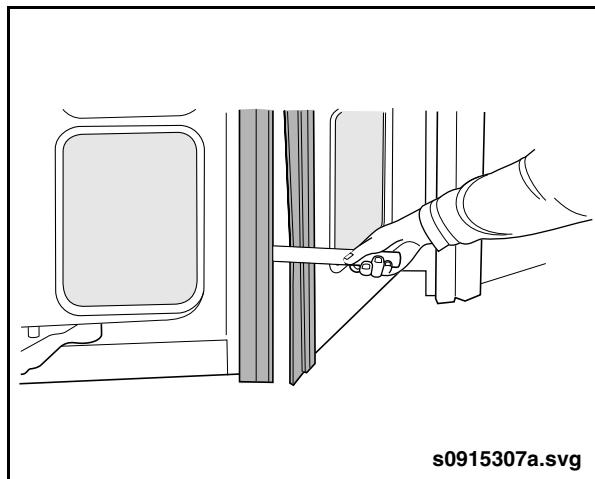

Fig. 16-24: Rod Test
6. Standing outside the vehicle with the door closing, hold a 1 inch diameter rod (hardwood or metal approximately 18 in. (45.72 cm) long) perpendicular to the side of the vehicle at the vertical centerline of the door opening, 12 inches above the bottom of the door panels. See “Fig. 16-24: Rod Test” on page 49.